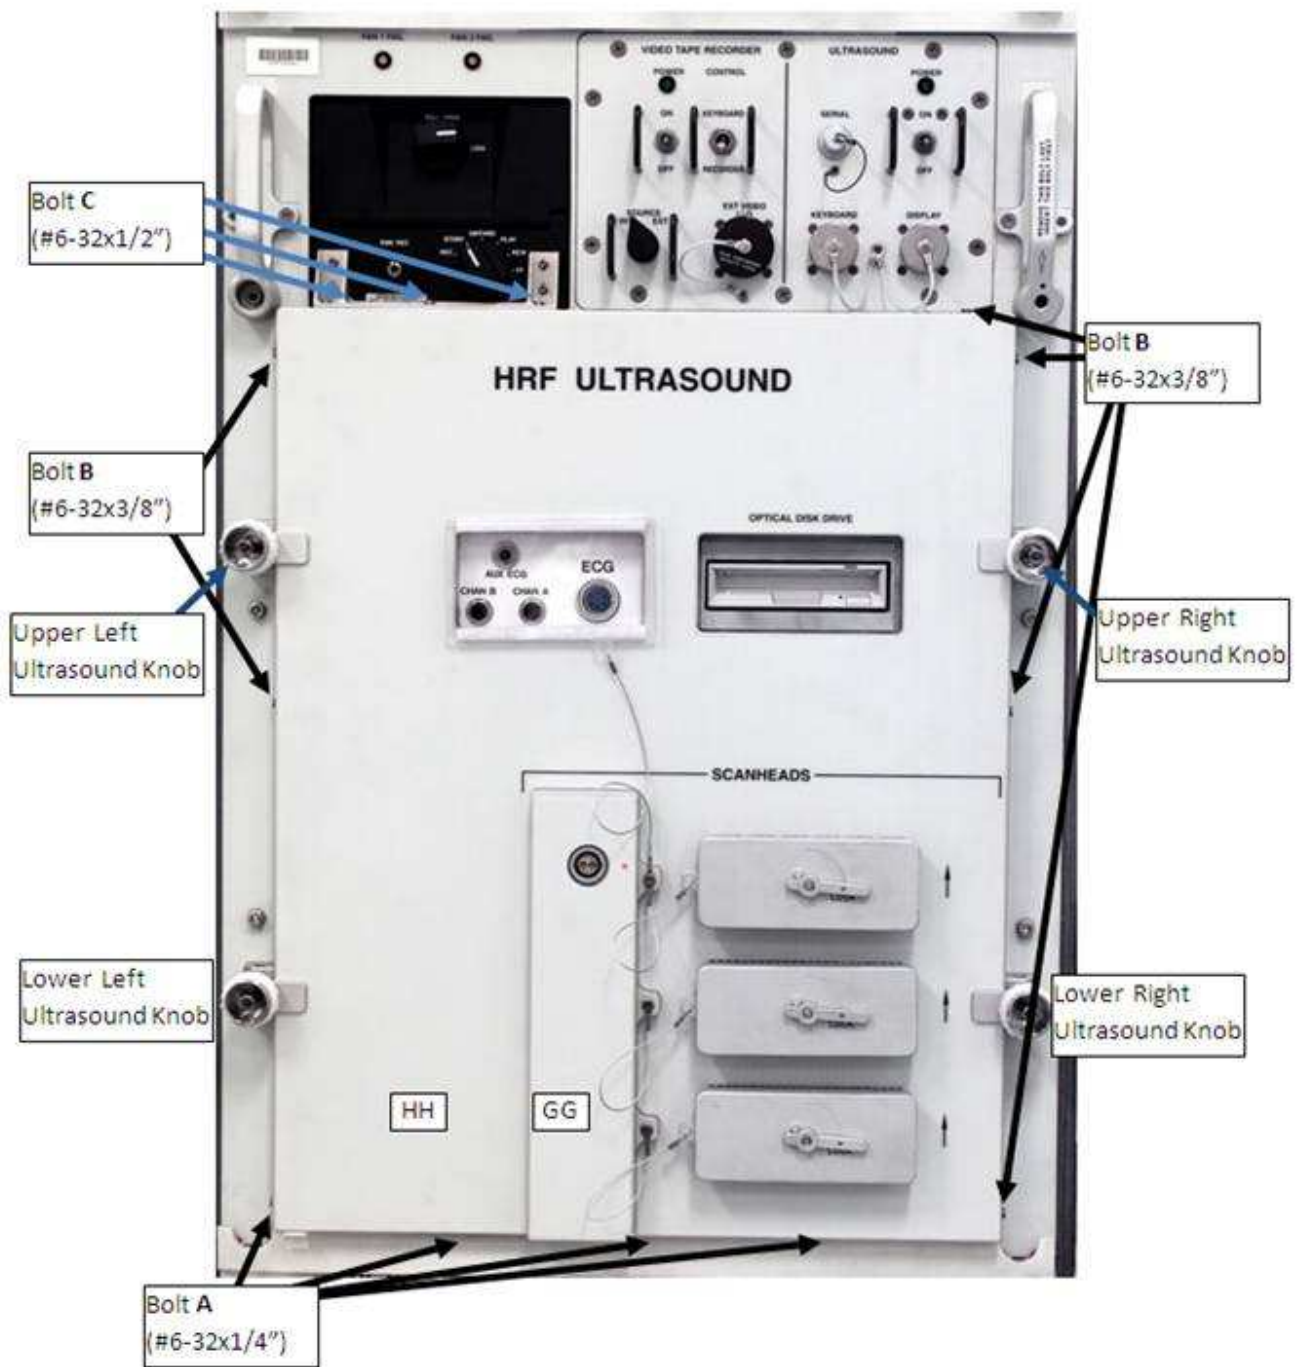

Figure 2. - HRF Ultrasound Front Panel Bolt Reference Guide.
1.2 Using Figure 2 as a guide for bolt location identification and tmpry stowage location into each labeled ziplock bag,